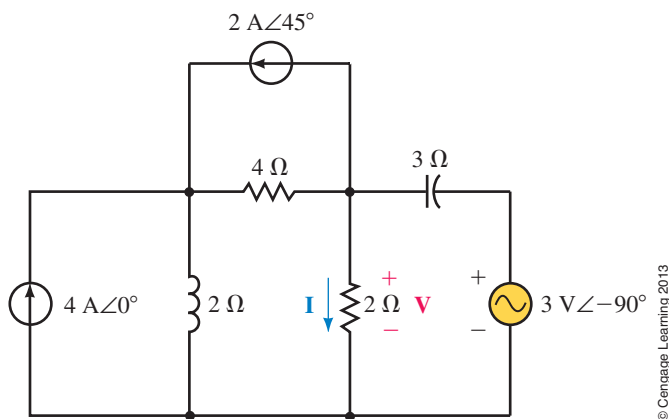

FIGURE 19–60
15. Use mesh analysis to find the current $\mathbf{I}$ and the voltage $\mathbf{V}$ in the circuit of Figure 19–61.